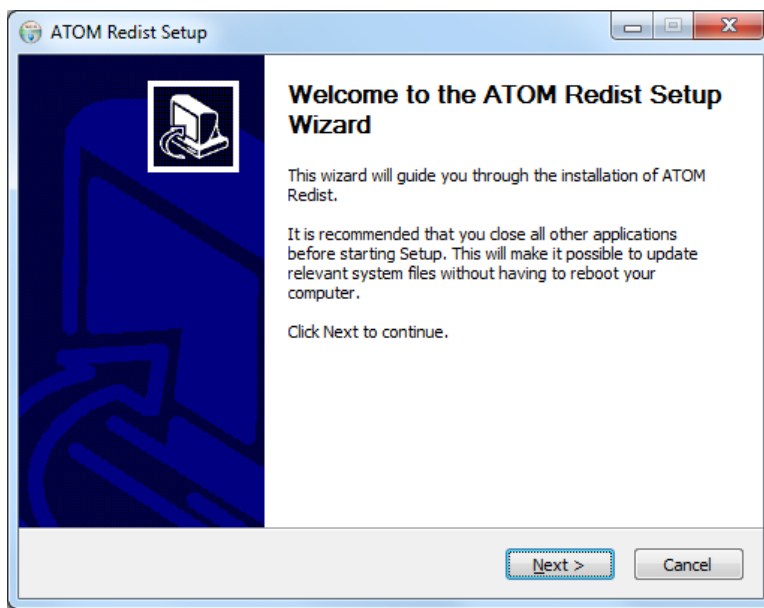

Figure 3.7
2. On the start screen that comes up, click on “Next” (*Figure 3.7*).